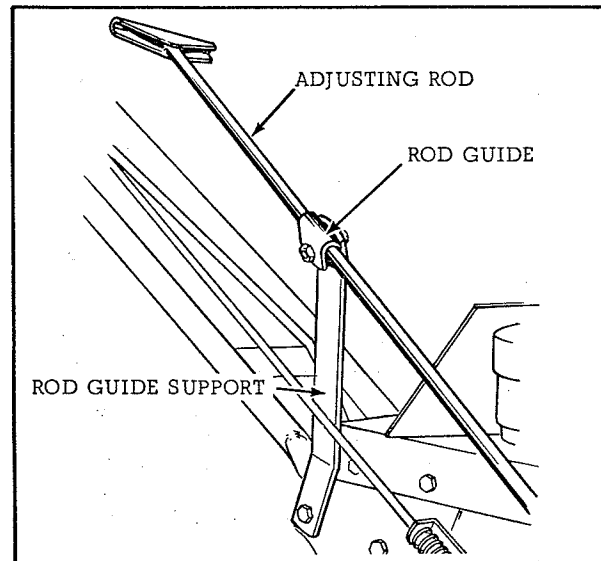

Fig. 7
2. Fasten the rod guide support to the right hand side of the tractor as shown in figure 7. Insert the adjusting rod into the rod guide and check to be sure that the rod guide does not bind or pinch as the spout adjusting handle must rotate freely.
1. Remove the capscrew holding the rod guide support to the side of the rear frame assembly. See figure 7. Position the socket assembly over the mounting holes in the rear frame assembly and re-position the guide rod support in place over the rear mounting hole on the right hand side of the socket assembly. Replace the capscrew, lockwasher and hex nut.